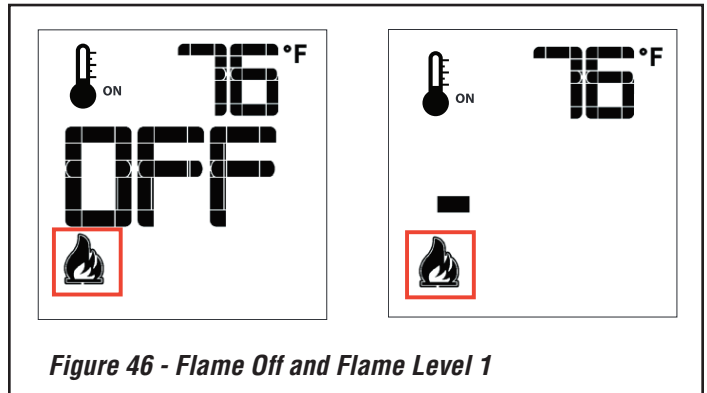

Figure 46 - Flame Off and Flame Level 1
When you turn on the fireplace it starts on high. The proflame 2 has six (6) flame levels. Each time you press the Down Arrow Key once the flame height will reduce by one step (**Figure 46**).